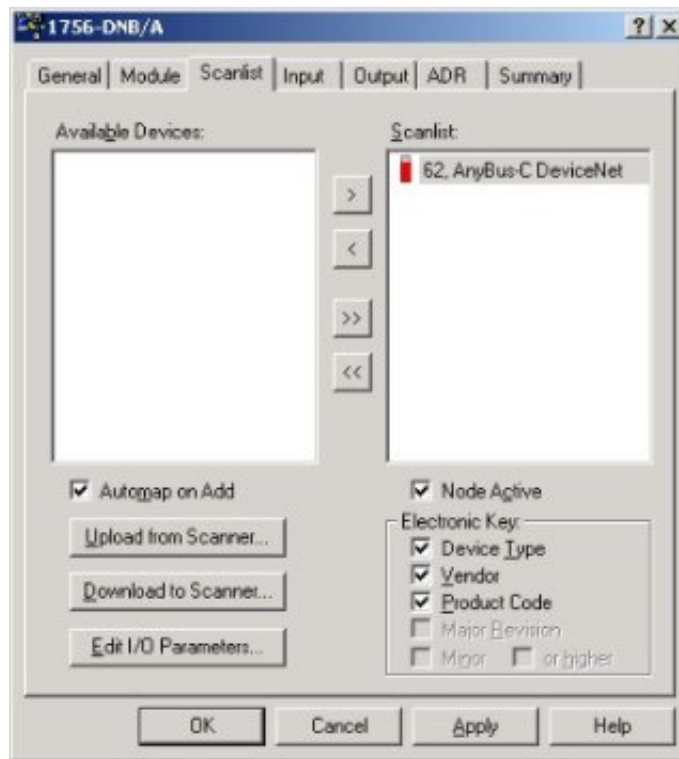

Figure 2
4. Select the Scanlist Tab, you will be prompted whether to download the offline configuration to the Scanner or upload the Scanner's current configuration. Choose upload. After uploading you should have a graphic showing the list of available devices to be added and a list of devices already loaded in the scanner as shown in Figure 2 on the following page.